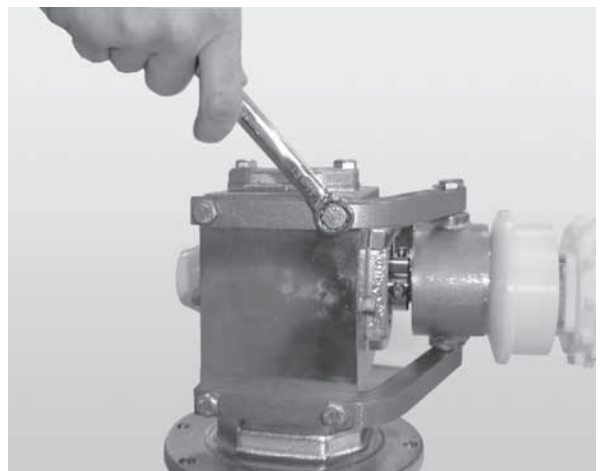

Figure 71
4. Unbolt the drive assembly and slide it off the bearing spindle (Figure 71).